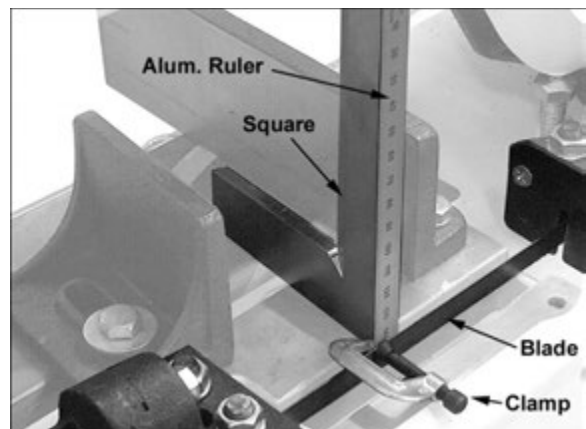

Figure 8-12: Table/Blade Squareness
- 1) "Extend" the blade surface by clamping a straight, flat object to blade. (Figure 8-12 uses small, lightweight aluminum ruler.) Use lightweight clamp.